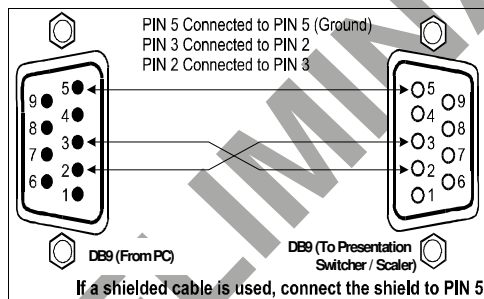

Figure 10: Connecting the PC
- Connect the RS-232 DB9 port on your PC to the RS-232 DB9 rear panel port on the **VP-724xl** unit, forming a cross-connection¹, as Figure 10 illustrates